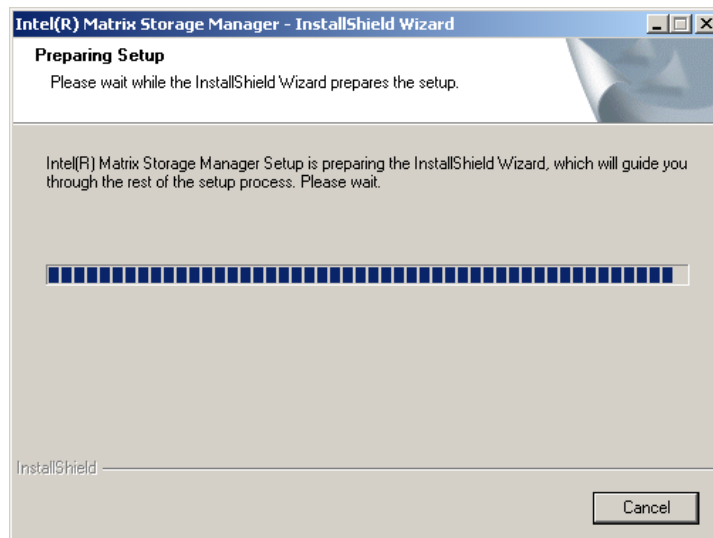

Figure 7-54: InstallShield Wizard Setup Screen
Step 5: Figure 7-54 shows the **InstallShield Wizard** preparing to guide the user through the rest of the process.